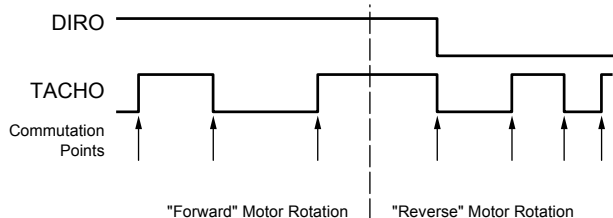

Figure 1. Direction Indication Outputs
**TACHO and DIRO** These outputs provide speed and direction information based on the HE inputs from the motor. As shown in figure 1, at each commutation point, the TACHO output changes state independent of motor direction. The DIRO output is updated at each commutation point to show the motor direction. When the motor is rotating in the “forward” or positive direction, DIRO will be high. When rotation is in the “reverse” or negative direction, DIRO will be low. The actual direction of rotation is determined from the sequence of the three Hall inputs, Hx. Forward is when the sequence follows table 3 top-to-bottom and reverse when the sequence follows table 3 bottom-to-top.